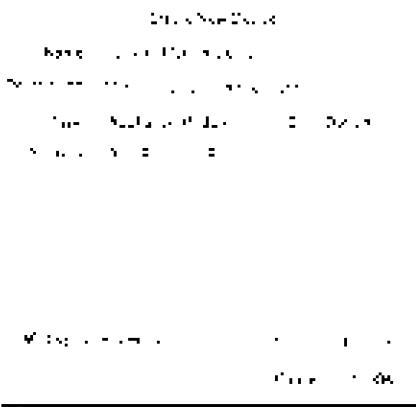

Figure 10-11:
3. In the Create New Device dialog that appears (shown in Figure 10-11), give the motion detector a name.